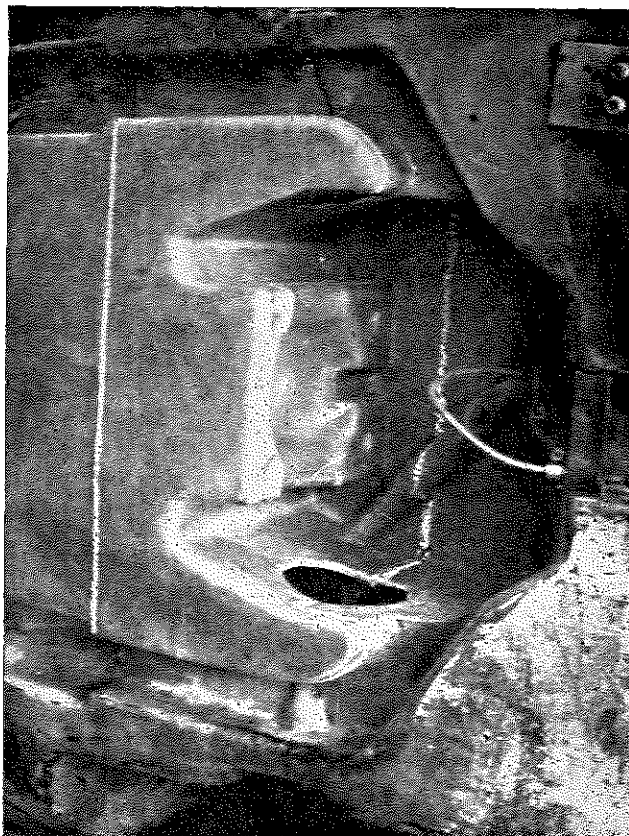

Fig. 22
- ii. The replacement laminate is provided slightly over-size and after cleaning off all oil from the relevant area the proposed cut-line should be carefully marked with tape or chalk as shown in Fig. 22.